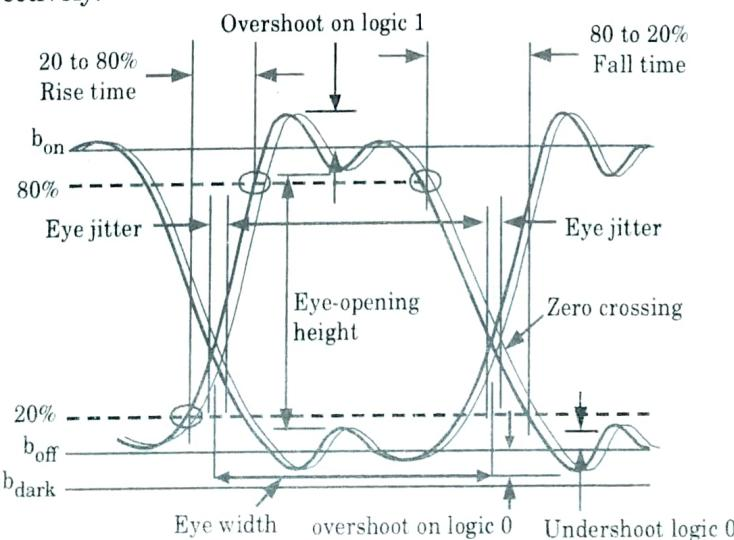

Fig. 5.6.2. General configuration of an eye diagram showing the definitions of fundamental measurement parameters.
2. Fig. 5.6.2 shows a typical display pattern, which is known as an eye pattern or an eye diagram. The basic upper and lower bounds are determined by the logic one and zero levels, shown by b_{on} and b_{off} , respectively.